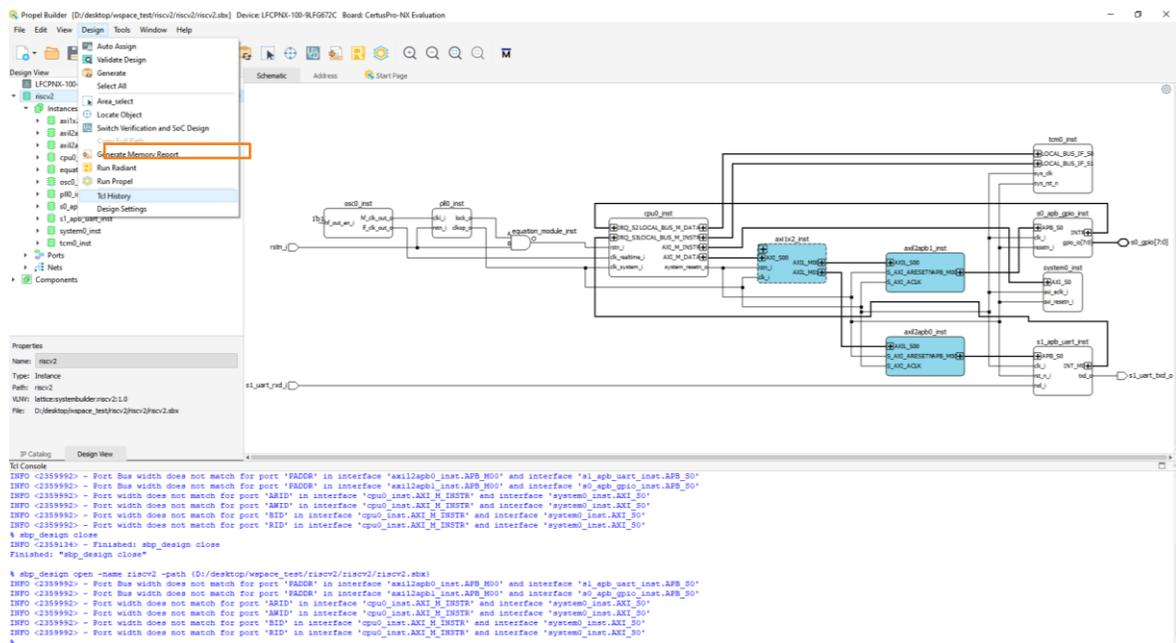
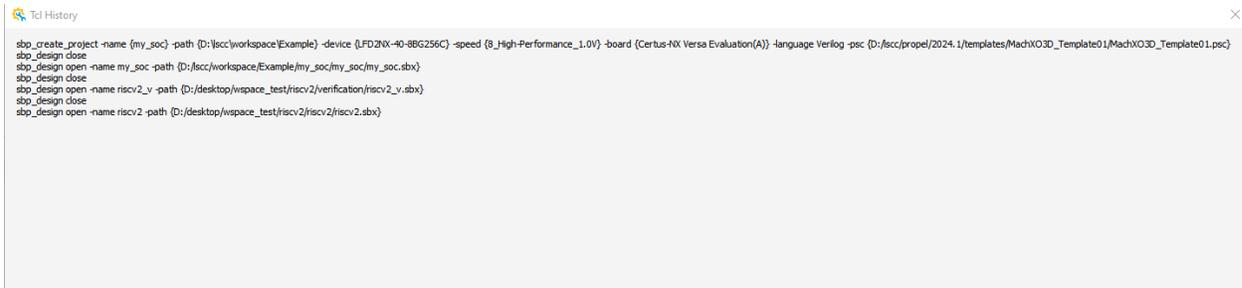

Figure 2.76. Open TCL History
Figure 2.77. Tcl History Window
- d. TCL history can be viewed in TCL History window (Figure 2.77) by choosing **Design > TCL History** (Figure 2.76).